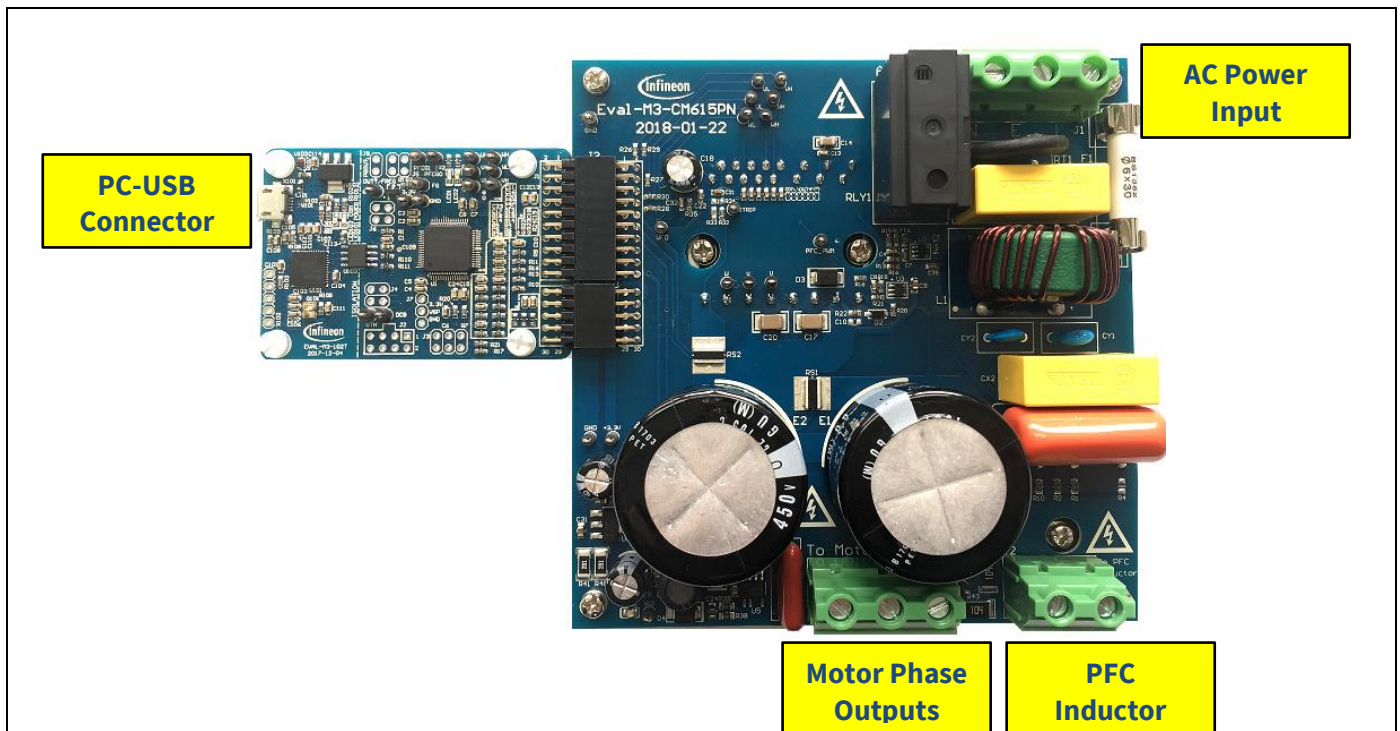

Figure 5 System connection example using EVAL-M3-302F and EVAL-M3-CM615PN
3. Connect EVAL-M3-302F M3 30-pin interface connector (J1) to power board (for example EVAL-M3-CM615PN, see Figure 5).